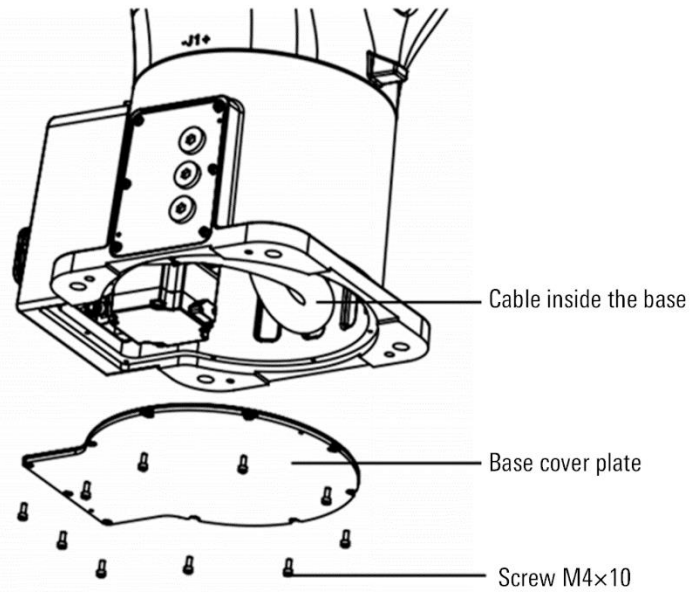

Figure 12-1 Cable maintenance inside the base
Step1. Remove the base cover plate, as shown in Figure 12-1, and observe the cable inside the base.